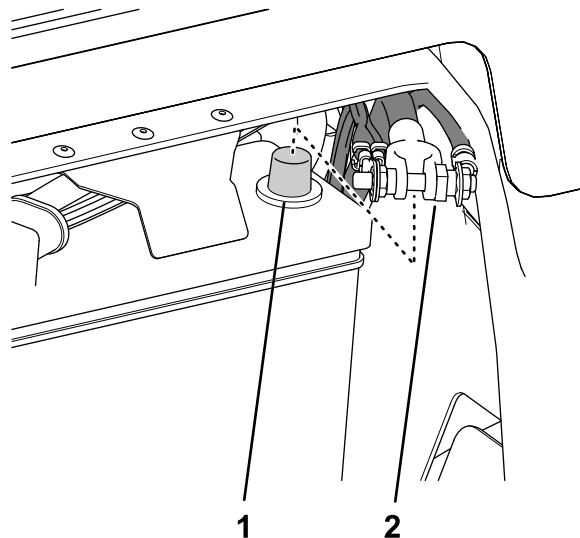

Figure 2
2. Disconnect the negative (-) battery cable from the battery (Figure 2).